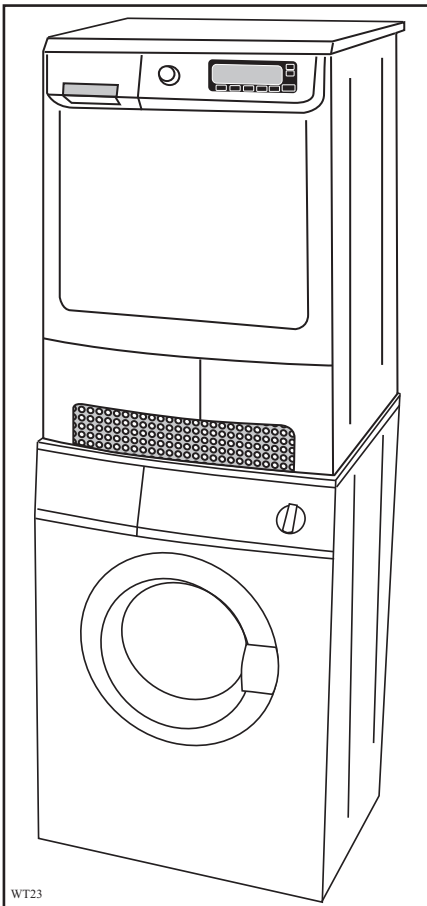

Fig 15
- Models with small door in plinth of the appliance (fig 15, 16 and 17).